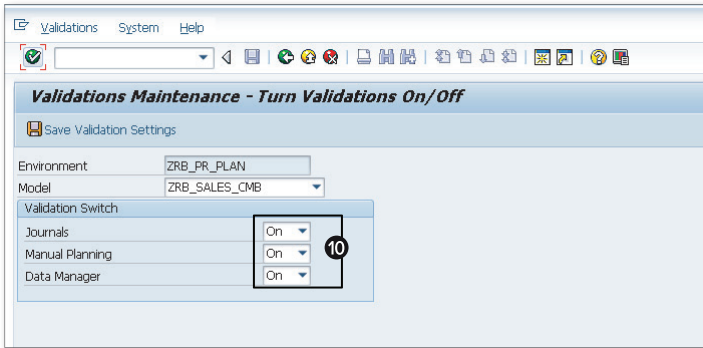

Figure 6.35 Creating a Validation Rule—Part F
- Click the green arrow to go back to the initial screen of Transaction UJ_VALIDATION, and click on the turn validations ON/OFF buttons to activate the validation rules (Figure 6.35, 10).